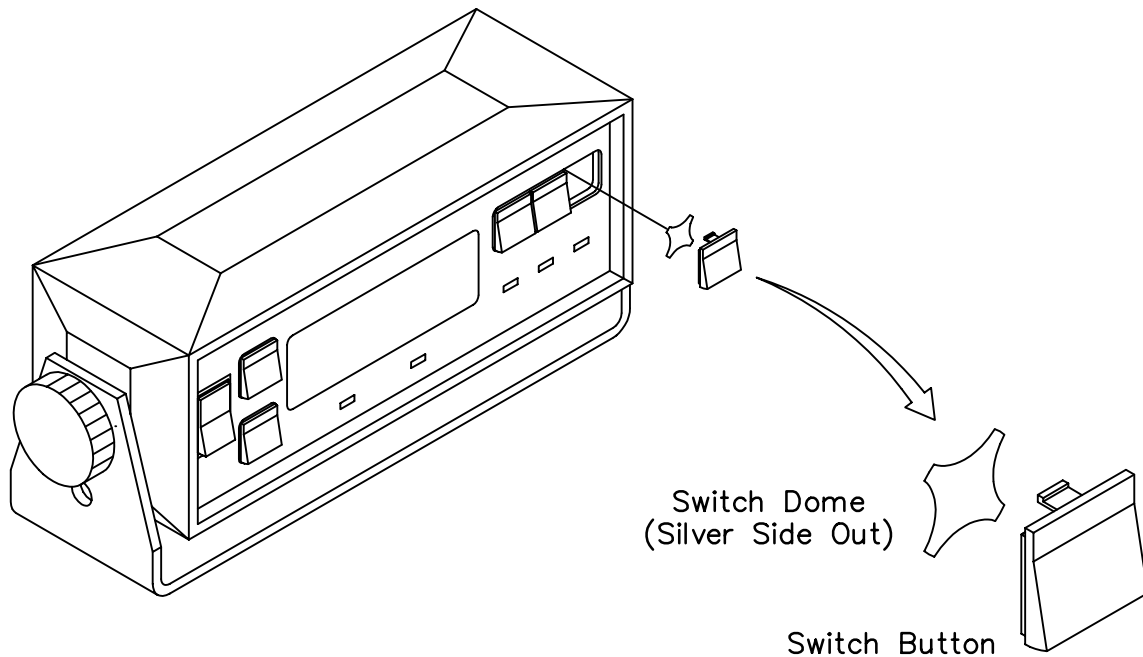

FIG. 113-A
3. Lift out metal dome switch from switch base as shown in Figure 113-A. **Caution:** Care must be taken not to drop the switch dome inside the meter. If the switch dome does get inside, it must be removed before the meter is plugged into the power source.
3. Snap the new plastic button into position by using a small screwdriver (place the blade against the lip of the button and gently press in). The taper surface face needs to be installed as shown in Figure 113-A.